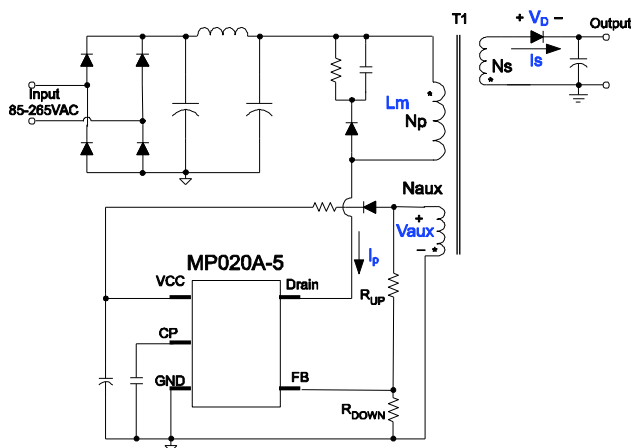

Figure 3: Simplified Flyback Converter
After start-up, the internal MOSFET turns on, and the current sense resistor (R_{CS}) senses the primary current ($i_P(t)$) internally (see Figure 3). The current rises linearly at a rate that can be calculated with Equation (1):